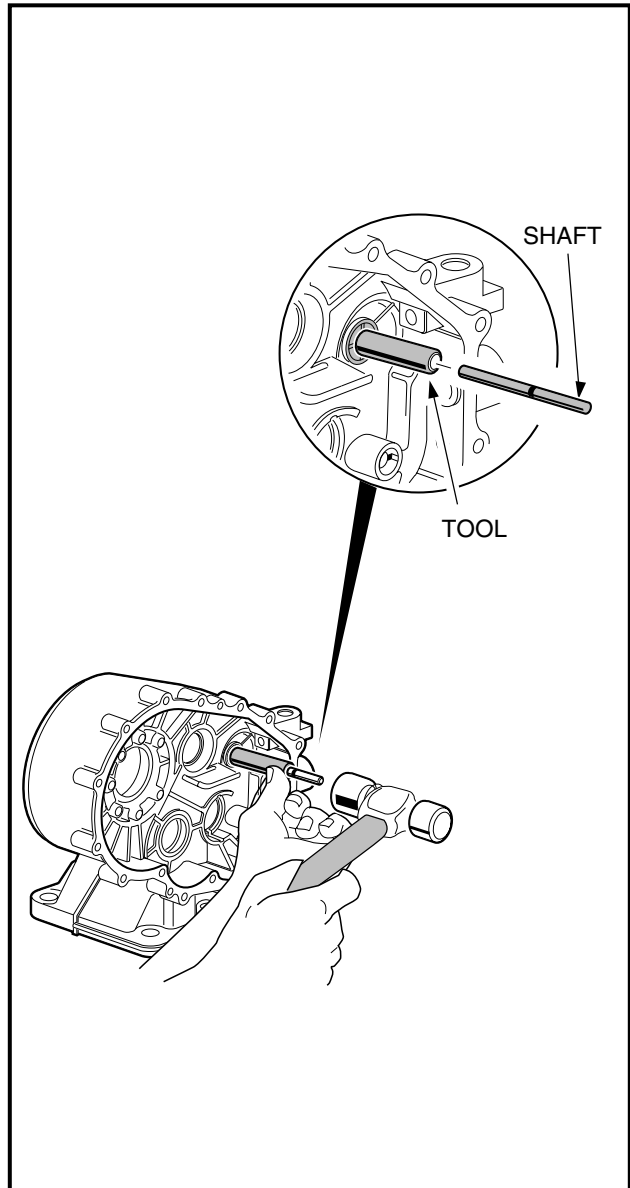

Figure 7-44 Governor Gear Shaft
3. Position the governor gear shaft installation tool (CCI P/N 101933101) over the shaft bore in the inside of the left (driver) side case and insert the governor gear shaft into the tool, long end (from the groove) first, as shown (**Figure 7-44, Page 7-24**). Make sure the shaft is started into the bore, then using a plastic or rubber hammer, carefully tap the governor gear shaft into the bore until the end being tapped is flush with the end of the tool. Remove installation tool.